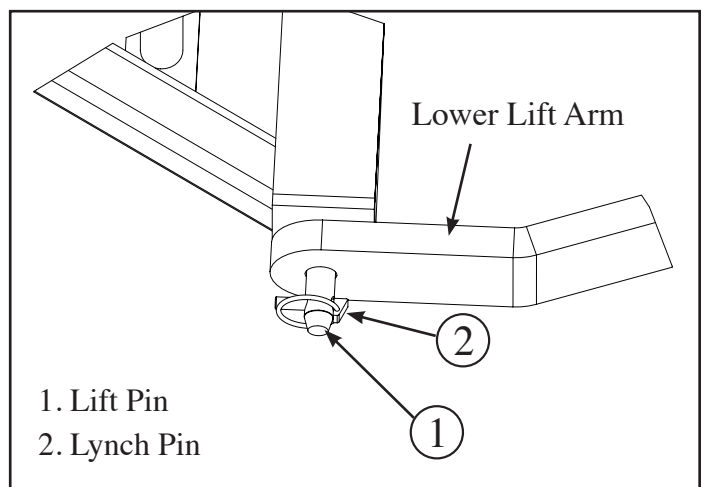

Figure 1 - Lower Lift Arm Attachment
Place tractor 3-point lower lift arms over lift pins (1). Secure with Lynch pins (2), Figure 1.